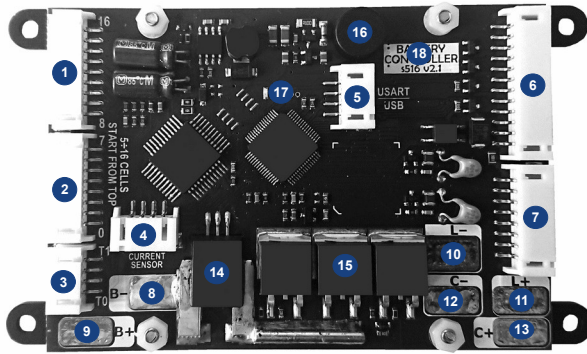
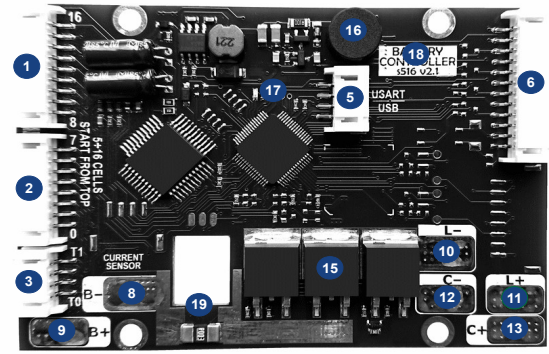

Figure 2.1: Tiny BMS v2.1 high power PCB board
Figure 2.2: Tiny BMS v2.1 low power PCB board
Tiny BMS PCB boards (Figure 2.1 and Figure 2.2)
9	Solder-pad for battery pack positive terminal (B+). For Tiny BMS hardware version 2.1 (Figure 2.1 to Figure 2.2) this solder-pad can be used as high current path from battery pack positive terminal (+) to load and charger positive terminals (+). Solder-pad B+ is directly connected to L+ 11 and C+ 13 solder-pads on the BMS board, but beware: only 30 A continues current can flow through this on board positive current path, otherwise there is a high probability to damage the BMS board itself. It is not recommended to use L+ 11 and C+ 13 solder-pads on high power versions of Tiny BMS . B+ also supplies current to BMS internal circuits, the thinner wire can be used to connect battery pack positive terminal (+) to BMS board B+ solder-pad.
14	Internal HALL current sensor. Available only in the high power 150 A version of Tiny BMS (Figure 2.1).
- 19 Internal Shunt resistor current sensor. Available only in the low power 30 A versions of the Tiny BMS (Figure 2.2).